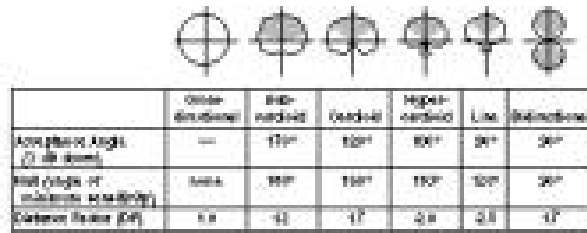

FIGURE 6: Basic Polar Patterns
The maximum angle within which the microphone may be expected to offer uniform sensitivity is called its acceptance angle. As can be seen in Fig. 6, each of the directional patterns offers a different acceptance angle. This will often vary with frequency. One of the characteristics of a high-quality microphone is a polar pattern which changes very little when plotted at different frequencies.
A directional microphone's ability to reject much of the sound that arrives from off-axis provides a greater working distance or "distance factor" than an omni. As Fig. 6 shows, the distance factor (DF) for a cardioid is 1.7 while the omni is 1.0. This means that if an omni is used in a uniformly noisy environment to pick up a desired sound that is 10" away, a cardioid used at 17" from the sound source should provide the same results in terms of the ratio of desired signal to ambient noise. Among other microphone types, the subcardioid should do equally well at 12", the hypercardioid at 20" and the bidirectional at 17".